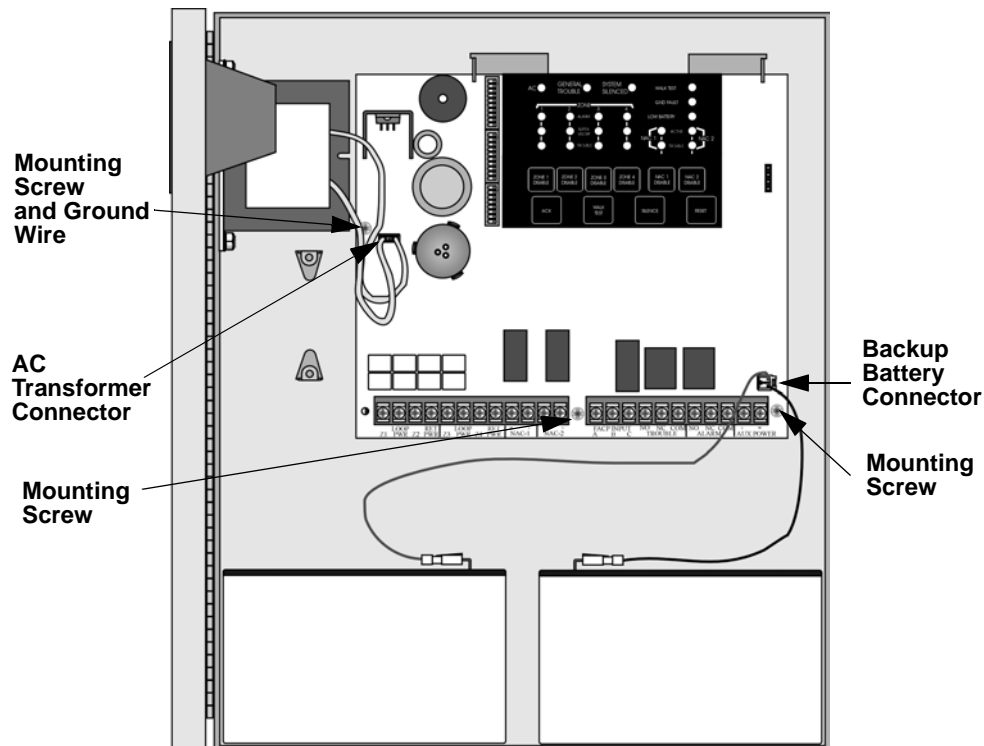
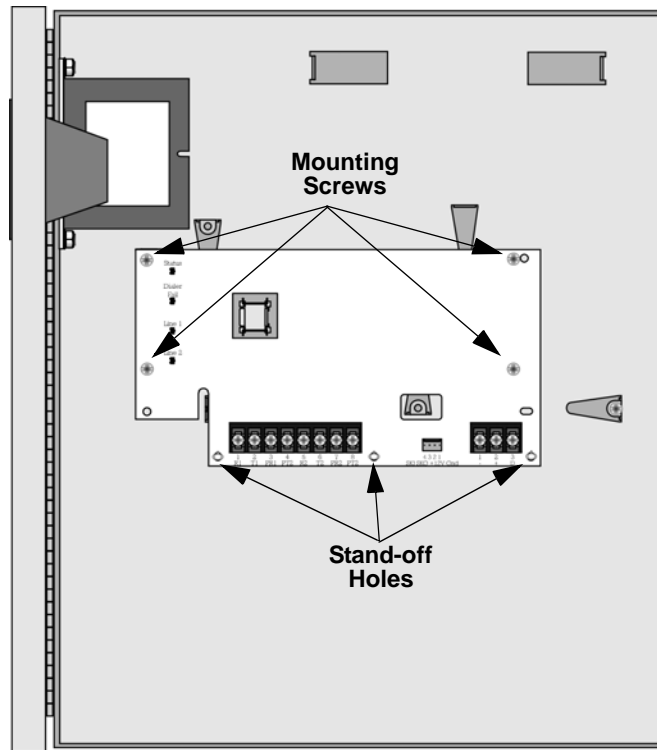

Figure 3-3 Control Panel Connectors and Mounting Screw Locations
Figure 3-4 Placement of SK-2104 in Cabinet
Note: Figure 3-3 and Figure 3-4 show the SK-4224 control panel.
1. Unplug the AC transformer connector from the control panel. See Figure 3-3.
2. Disconnect the ground wire. See Figure 3-3.
3. Disconnect the backup battery connector. See Figure 3-3.
4. Unscrew the three control panel PC board mounting screws. See Figure 3-3.
6. Insert the three plastic stand-offs into the appropriate circuit board holes. See Figure 3-4.
7. Insert the SK-2104 PC board as shown in Figure 3-4.
9. Reinsert the fire control panel PC board. See Figure 3-3
10. Reconnect the AC transformer connector. See Figure 3-3.
11. Reconnect the ground wire. See Figure 3-3.
12. Reconnect the backup battery. See Figure 3-3.